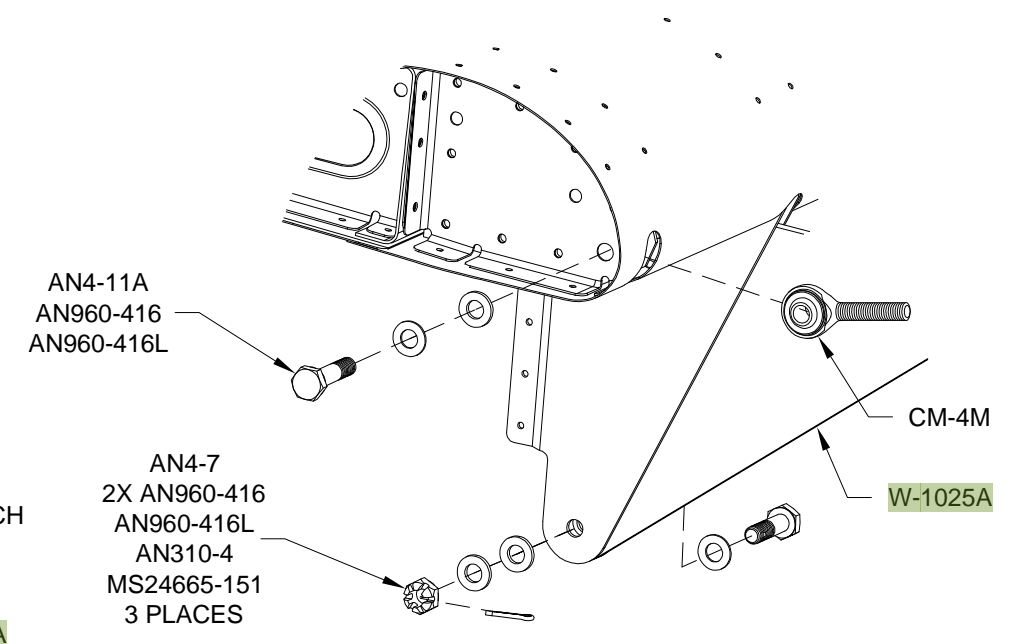

FIGURE 5: ATTACHING ROD END
Step 14: Attach the CM-4M Rod End to the flap's inboard end using the hardware shown in Figure 5. This step may be delayed until after painting.